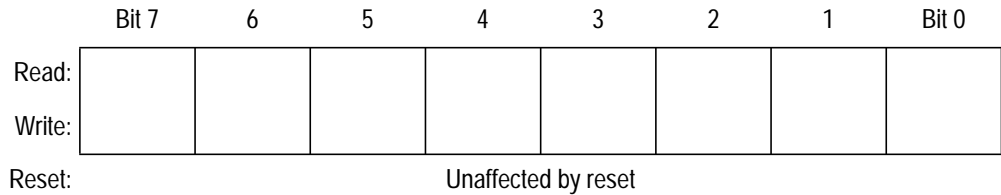

Figure 3-3. Index Register (X)
In the indexed addressing modes, the CPU uses the byte in the index register (X) to determine the effective address of the operand. (See **10.3.5 Indexed, No Offset**, **10.3.6 Indexed, 8-Bit Offset**, **10.3.7 Indexed, 16-Bit Offset**.) The 8-bit index register shown in **Figure 3-3** can also serve as a temporary data storage location.